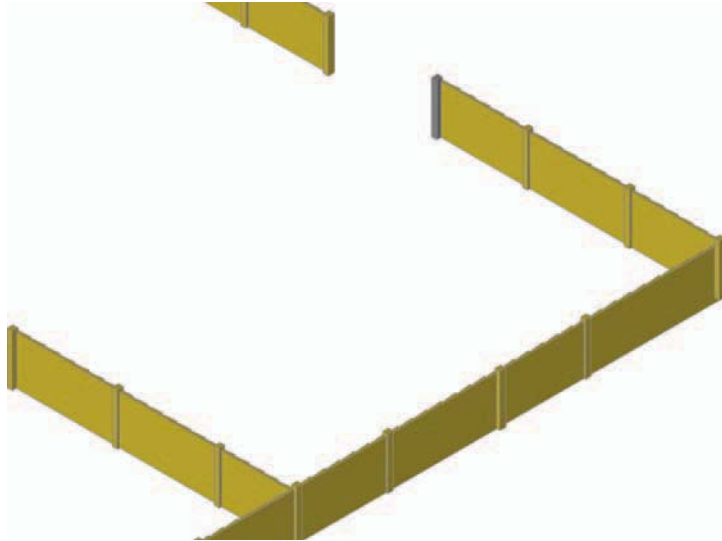

Fig. 16.23 Third example – part of the fence
4. In the **Front** view, construct a single plank and a post of a fence and copy them a sufficient number of times to surround the four fields leaving gaps for the gates. With the **Union** tool form a union of all the posts and planks. Fig. 16.23 shows a part of the resulting fence in a **Realistic** visual style view in the **Isometric** viewport. With the **Union** tool form a union of all the planks and posts in the entire fence.